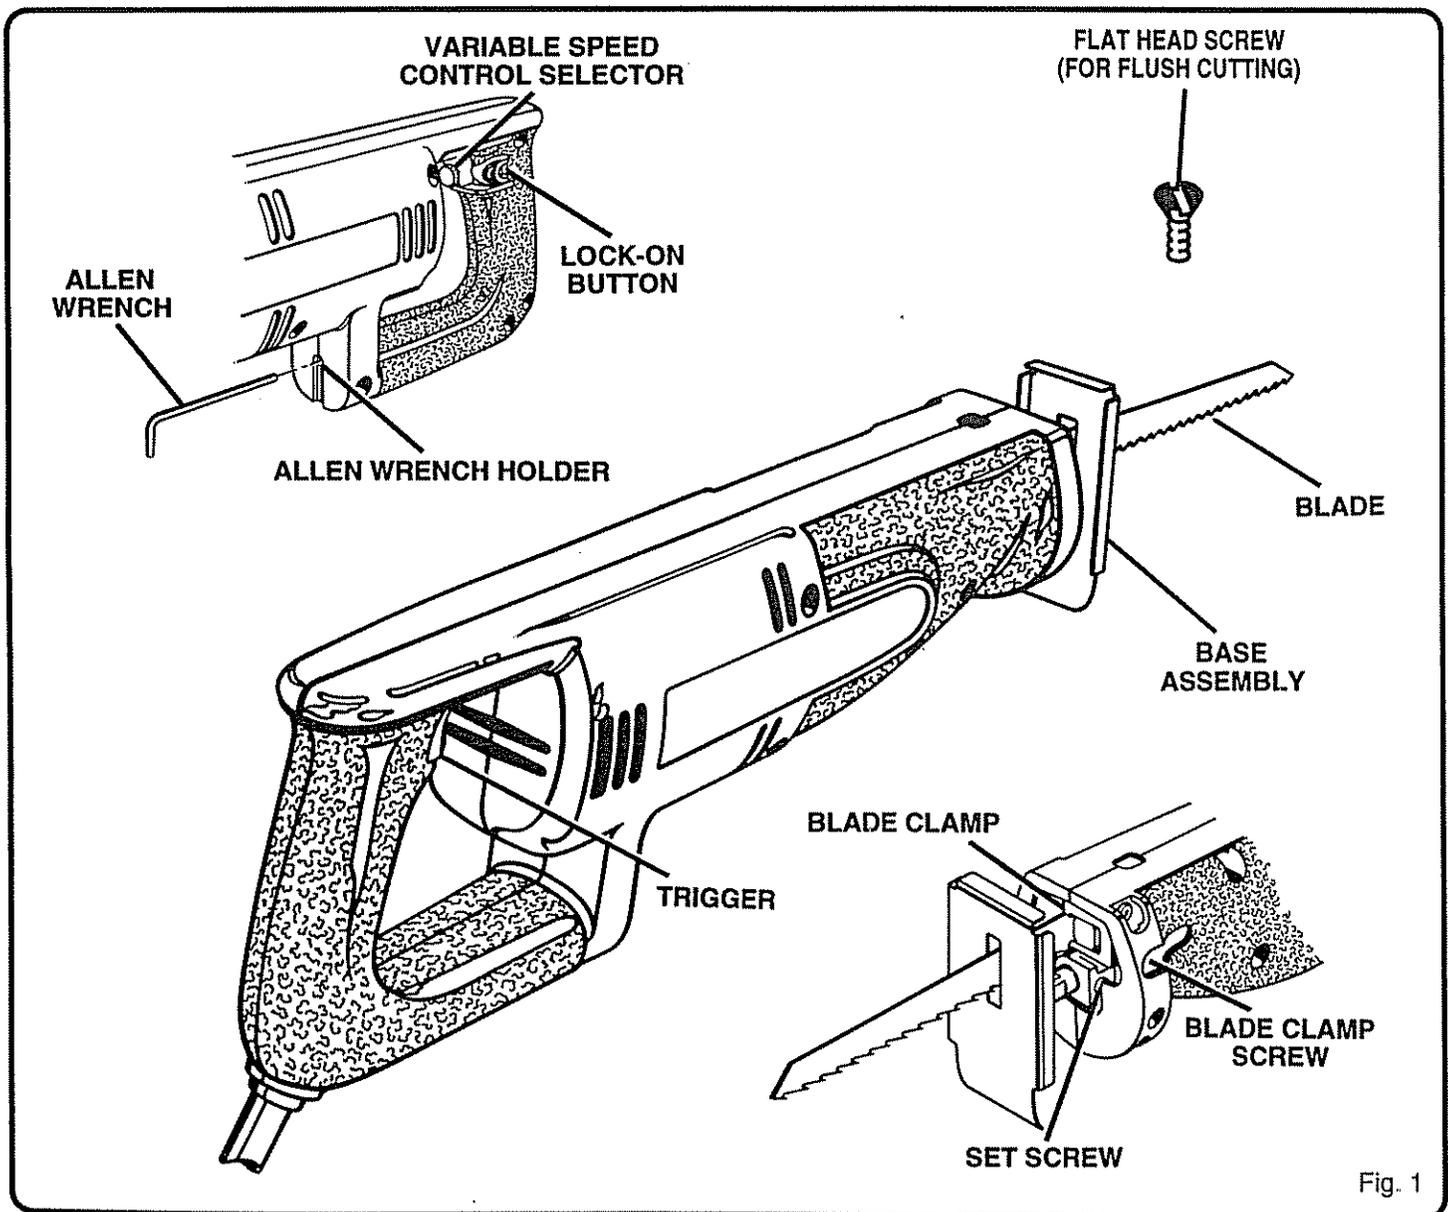

Fig. 1
Before attempting to use your saw, familiarize yourself with all operating features and safety requirements. See Figure 1.
See Figure 1.
2. Remove the 5/32 in. allen wrench provided with this saw from allen wrench holder. **NOTE:** Allen wrench holder is located in bottom portion of saw handle. See Figure 1.